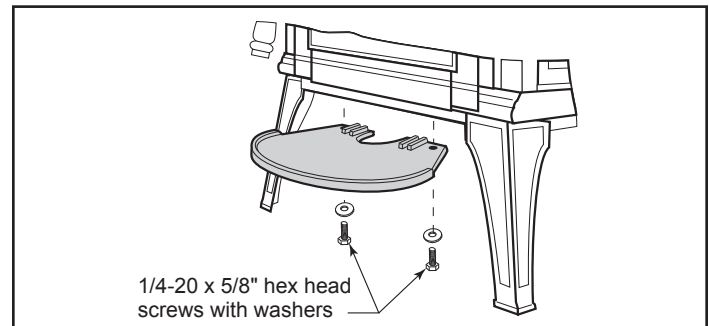

Figure 7.2 - Attach the Ashlip to the bottom plate.
Use a 7/16" wrench to secure the Ashlip to the stove bottom with two, 1/4-20 x 5/8" hex head screws and washers found in the holes used to attach the ashlip. (Figure 7.2)
2. Locate the hex bolt (Figure 7.2) located in the center rear edge of the stove bottom plate. Loosen this bolt just enough to engage the Adapter clevis tab under the washer and then retighten.